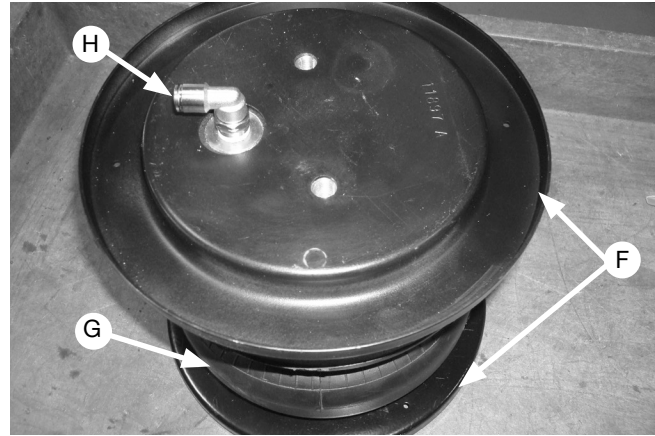

Fig. 4
1. Place the roll plates (F) on the air springs (G). Install the 90 degree swivel elbow fittings (H) onto the air springs (Fig. 4). Tighten the air fittings finger-tight plus 1 1/2 turns.